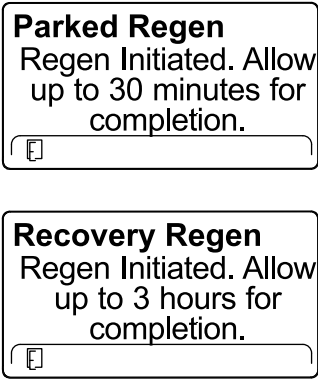

Figure 60
6. The InfoCenter displays the time to complete message (Figure 60).